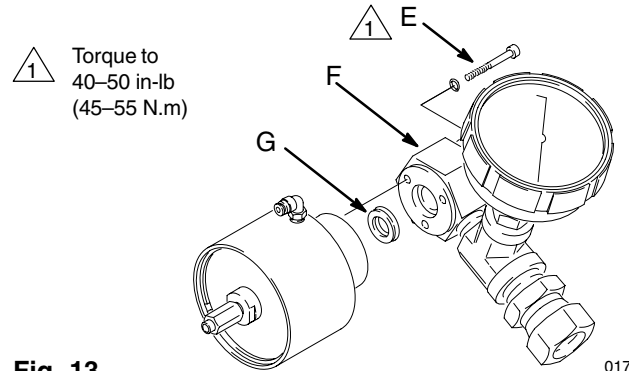

Fig. 13
15. Remove the gauge (H), using a 1–1/16 inch wrench. Then remove the drain valve assembly using a 2–1/4 inch wrench.
16. Remove the three screws (E). Pull off the cap (F). Remove the packing (G). Install the new packing so the lips face into the cap. See Fig. 13.
17. Reassemble the drain valve. Torque the screws (E) to 40–50 in-lb (45–55 N.m) and screw it onto the pump.
18. Install the pump and prime it. Check the packing nut (202) and tighten it just enough to prevent leakage.